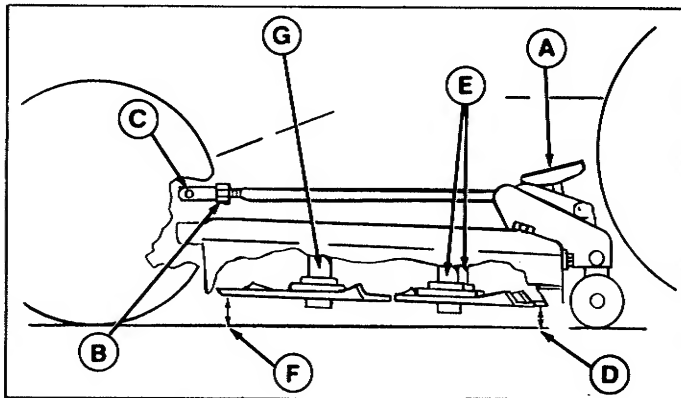

Figure 22. Level Mower
2. Turn both mower height adjustment handles (A, figure 22) fully clockwise to the highest cutting height position.
3. Rotate the mower blades so the tips point straight forward and backward as shown in figure 22.
- a. Loosen the jam nuts (B, figure 22).
- b. Remove the cotter pins and then disconnect the eyebolts or yokes (C, figure 22) from the mower hitch.